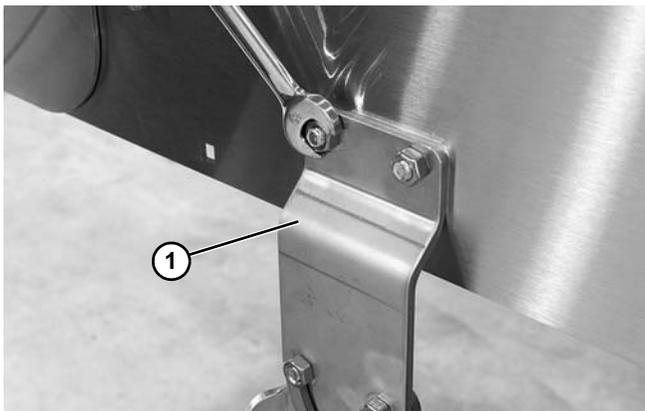

Figure 7
2. Attach the stands (Figure 7, item 1) to the frame.